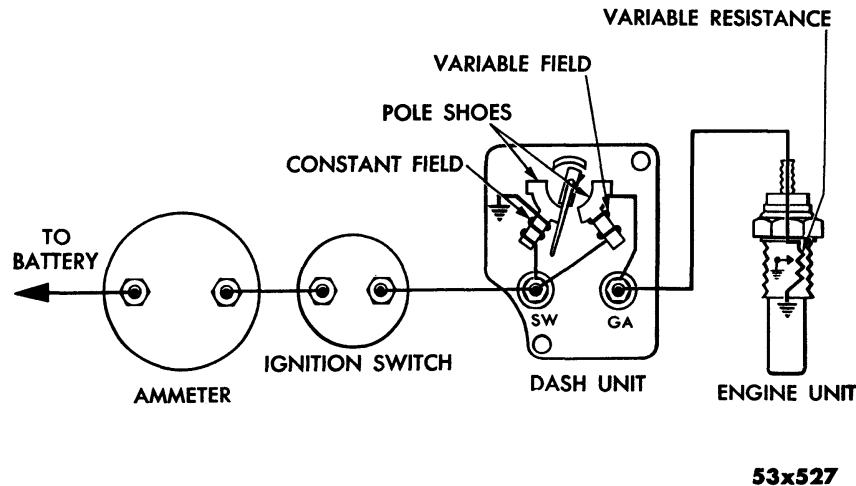

Fig. 4—Water Temperature Gauge
4. WATER TEMPERATURE GAUGE (Fig. 4)